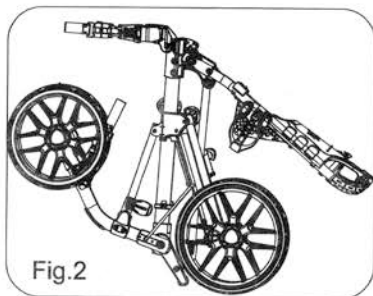

Fig.2
2. Folding the trolley as Fig.2 so it is easy to assemble the seat.